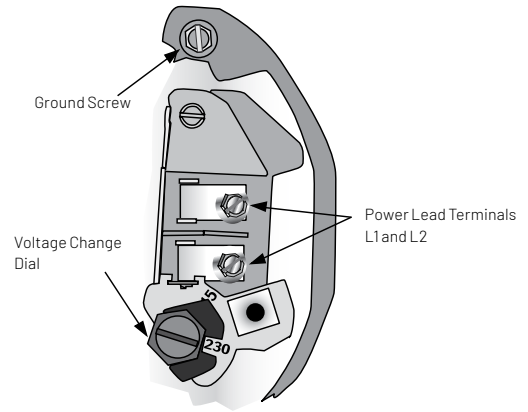

Figure 9: Voltage set to 230 volt current. Rotary selector
- Refer to Figure 9 for wiring configuration.
- Connect current-carrying conductors to terminals L1 and L2. When replacing the motor, check wiring diagram on the motor nameplate. For 3-phase motors or motor's whose wiring diagram does not match Figure 9, follow the diagram on the motor.